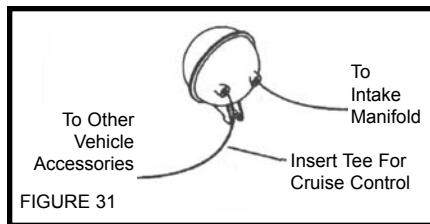

FIGURE 31
3. Existing Vacuum Canister mounted on vehicle generally on the inner fenderwell or engine bulkhead. **Figure 31**